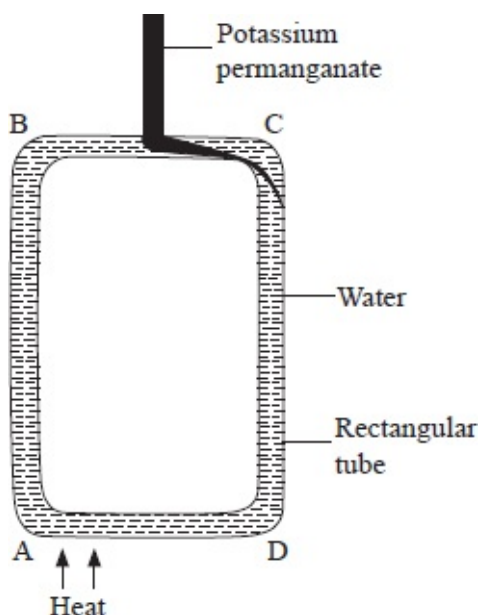

Fig. 7.16: Convection in water
- Heat the water in the tube at point A, as shown in figure 7.16.